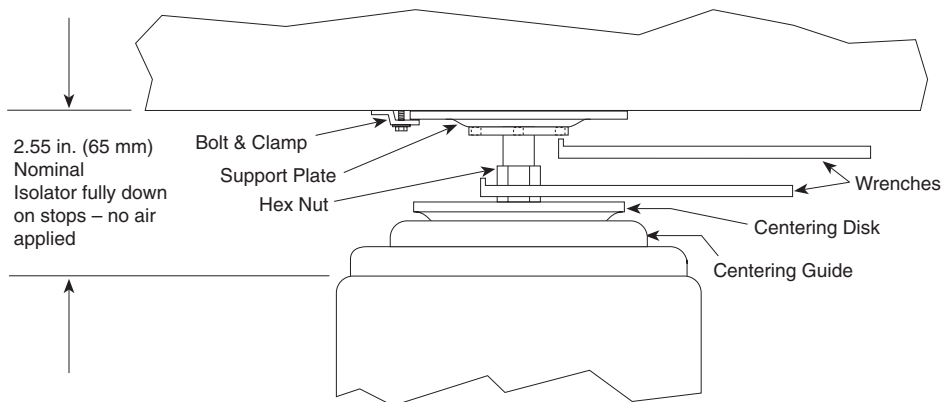

Figure 2.4 — Level Adjustment of Isolators
- A. Refer to Figure 2.4. As shown, use one of the special wrenches to hold the hex nut stationary. Insert the prongs of the second wrench into the holes on the bottom of the support plate. Rotate the plate using the top wrench to adjust the height.
- C. For each isolator, adjust the support plates as required to bring the table to a level condition. Be sure to check the level using both the length and width axes of the table. Verify that the centering disks are centered in and resting on their respective guides (Figure 2.4).
- D. When the table is completely level, ensure by eye that every isolator support plate is snug against the table bottom and that each centering disk is centered in its guide (Figure 2.4).